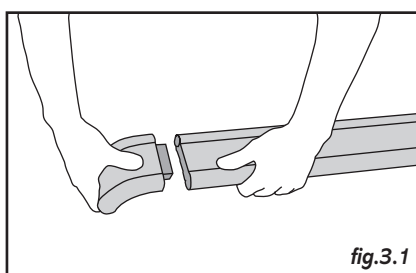

fig.3.1
- Assemble the aluminium profile and the accessories using a self-tapping 4.2 x 19 mm screw or a rivet as per diagrams below (fig.3.1 and 3.2).